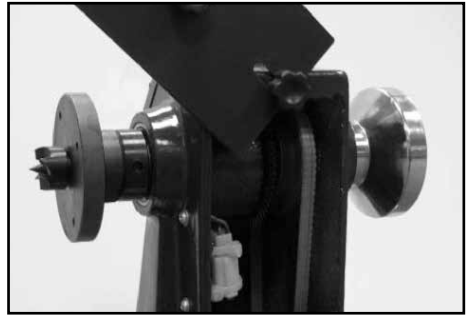

FIG. 4
9.1 CHANGING SPEED – FIGS. 4 – 4B